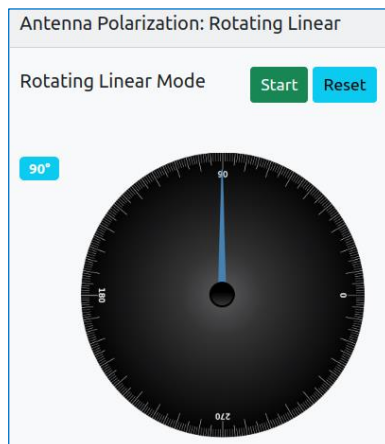

Figure 37: Antenna Polarization, Rotating Linear Mode
- Rotating Linear – Start/Stop and Reset, as shown in Figure 37